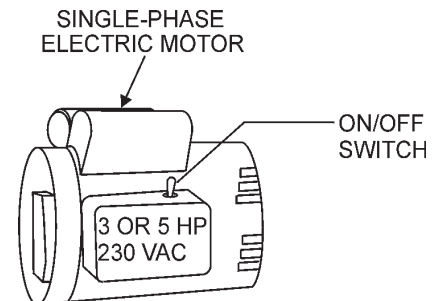

Figure 11. Main ON/OFF Switch
- Set the electric motor's ON/OFF switch (Figure 11) to the **ON** position.
- Place the electric motor's **start/stop** switch (Figure 11) in the **OFF** position.